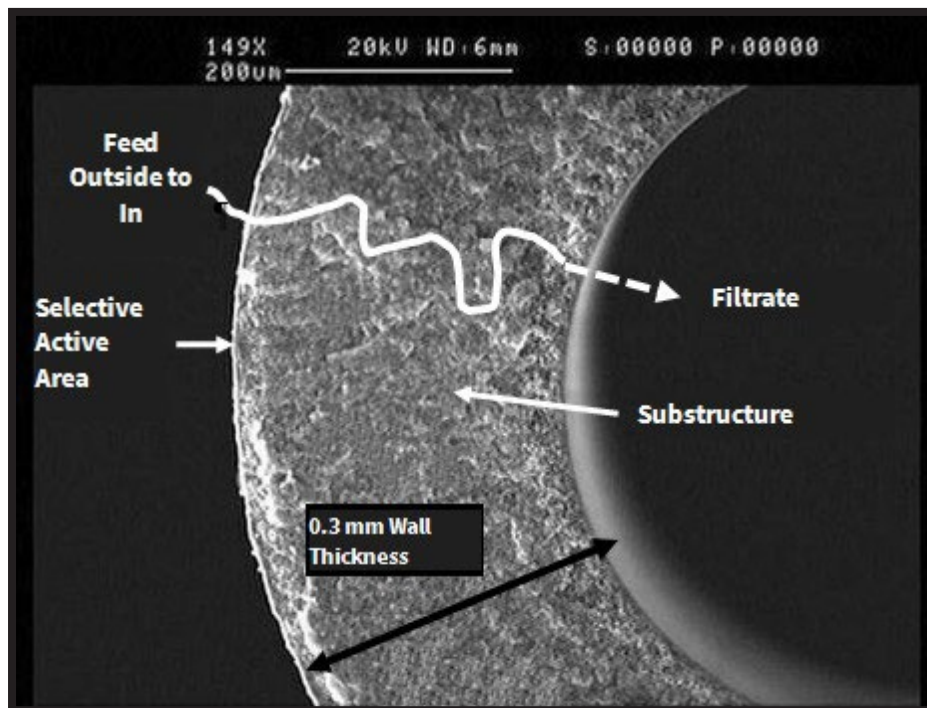

Figure 2 Wall Cross Section of the Hollow Fiber
The DuPont ultrafiltration hollow fiber membrane shown in Figure 2 is 1.3 mm outside diameter and 0.7 mm inside diameter and is made from PVDF polymer. The fibers are strong because of a combination of the polymer type, the wall thickness, high porosity sub structure, and smaller pores at the surface of the fiber. The PVDF membranes offer high chemical resistance and are tolerant to temperatures ranging from 1 to 40°C.
1. Install Base Clip (1). Drill four 10 mm diameter holes on Skid Frame (2, 1). Fix Base Clip on Skid Frame (2, 1) (by Customer) with Bolts & Nuts (3) (M8 size, by Customer). The length of the Bolts used for the Base Clip (1) will depend on the thickness of the Skid Frame (2, 1). Refer to Figure 2, Base Clip Detail.